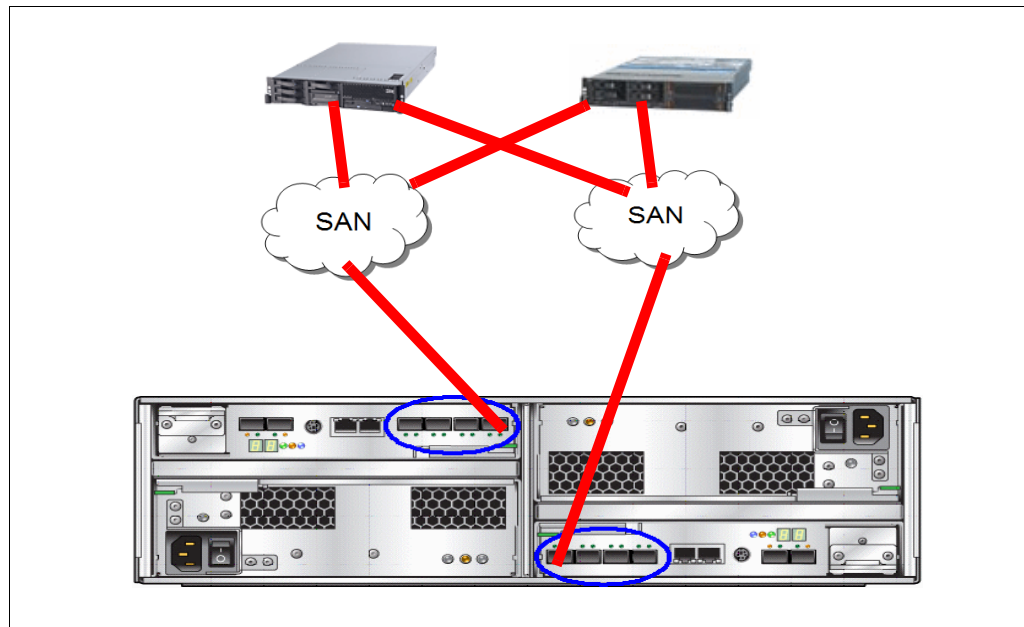

Figure 3-26 SAN connected hosts to DS4700 (Model 72)
The DS4700 also fully supports switched connections. Figure 3-26 depicts how the DS4700 would be connected into dual-redundant fabrics. Note how the same host port (1) is used on each controller to connect to the fabrics.